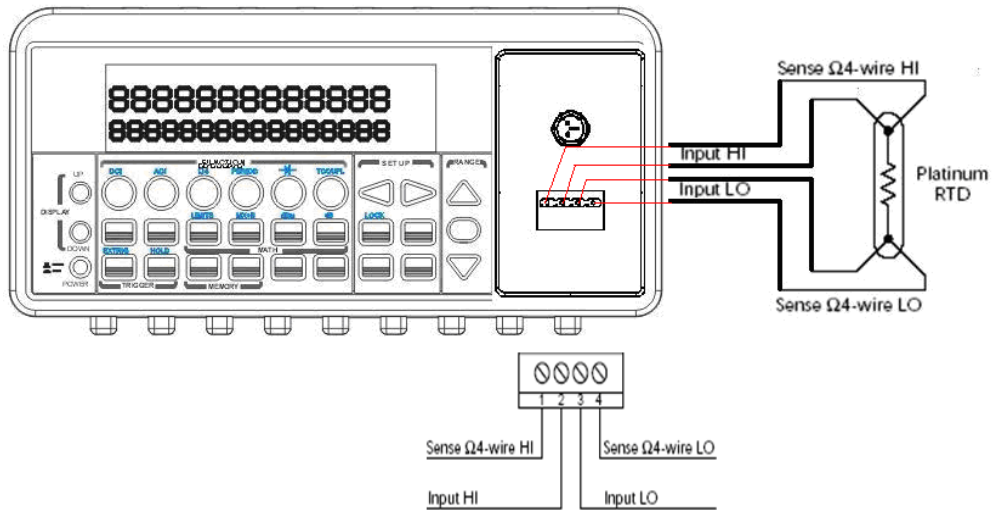

Figure 3-18
- ① Use terminals switch to select front terminals.
- ② Insert a specified adapter into the front terminals. Connect the low thermal patch leads to the adapter as shown in **Figure 3-18**.
- ③ Configure sensor type, transducer (4W) and unit using CONFIG + TEMP and ◀ or ▶. When ready, press ENTER button. For more information, refer to the section 4.1.8.
- ④ Press TEMP button.
- ⑤ Place RTD in the desired position and take the reading on the display.